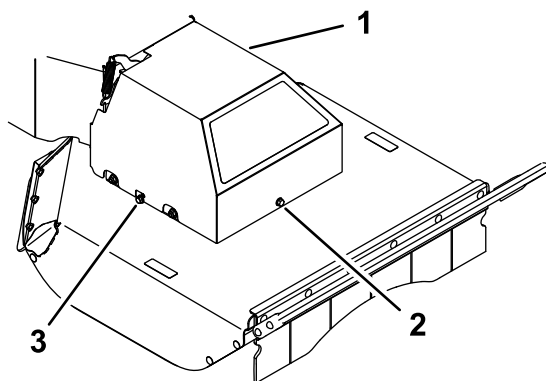

Figure 32
5. Loosen the left and right side bolts a few turns and loosen the front bolt until the cover is loose (Figure 32).
11. Lower the belt cover onto the deck, aligning the slots in the cover with the side bolts. Tighten the front bolt, then tighten both side bolts (Figure 32).